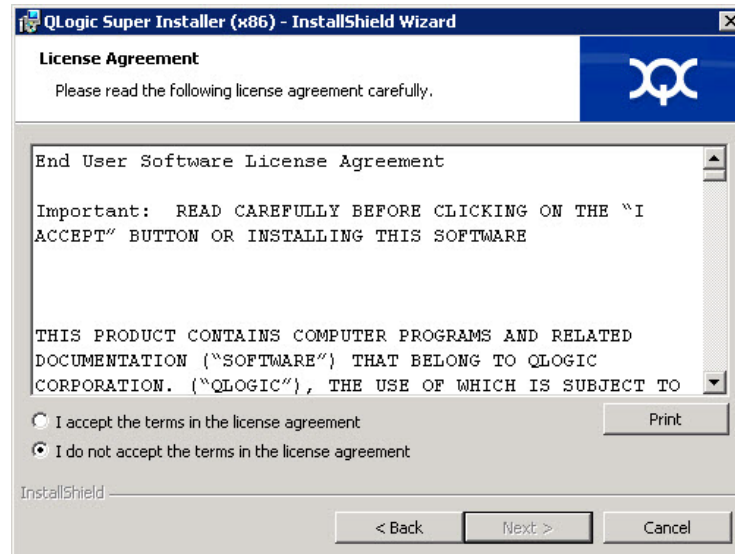

Figure 2-3. QLogic InstallShield Wizard: License Agreement Window
4. In the wizard's License Agreement window (Figure 2-3):